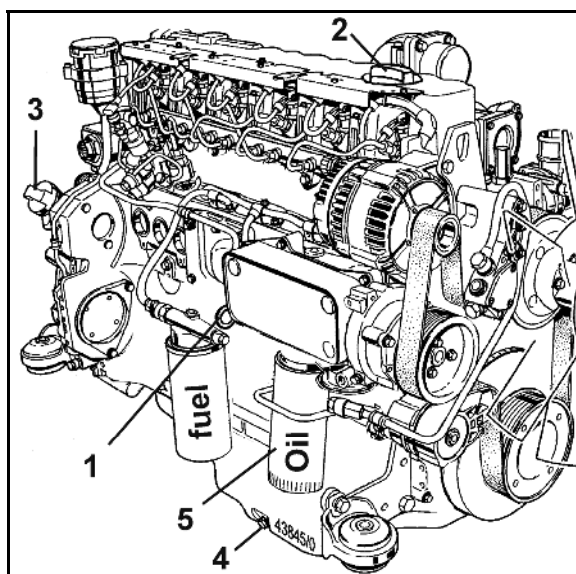

Fig. 143
2. Pull out the dipstick (Fig. 143/1) and clean it using a clean cloth.
4. When required, the oil level must be topped-up through the filling opening (Fig. 143/2,3) using the specified oil.
5. Unscrew the oil drain plug (Fig. 143/4).